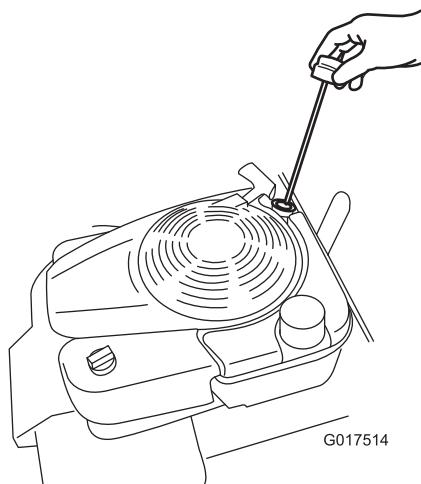
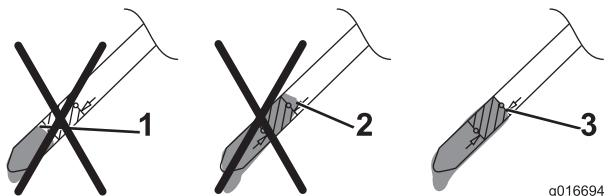

Figure 14
Figure 15
2. Remove the dipstick (Figure 14).
5. Read the oil level on the dipstick (Figure 15).
- If the oil level is too low, **slowly** pour a small amount of oil into the oil-fill tube, wait 3 minutes, and repeat steps **3** through **5** until the oil level is correct as shown in **Figure 15**.
Adjust the cutting height as desired; refer to Figure 14 and Figure 15.